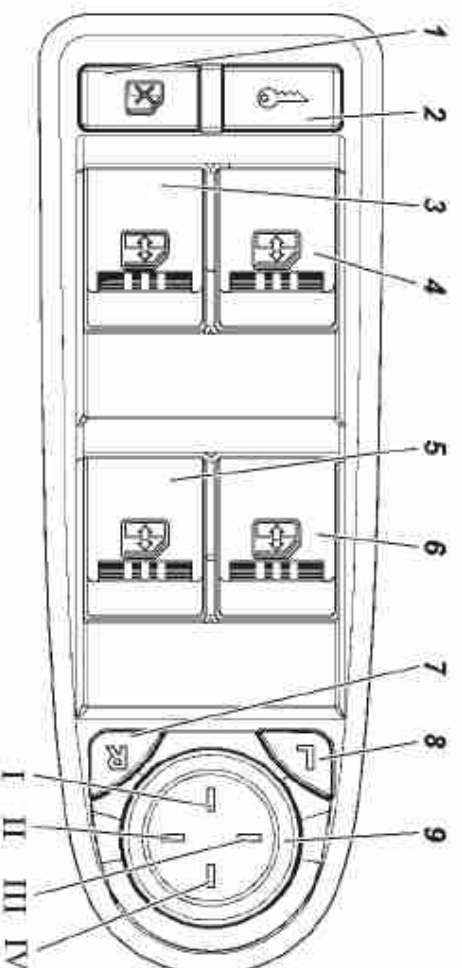

Fig. 3.14. Driver side door switch module with multiplex control:
The system can be switched over to the fast driver side door unlocking mode when, by single pressing button 2 of the RCP or turning the key in the driver side door key hole, only the driver side door is unlocked and, when pressing button 2 on the RCP or button 2 (Fig. 3.14) of the DSDM again, all other side doors and the T/gate are unlocked.
- press switch 2 (Fig. 3.14) of the DSDM. Every press either locks or unlocks the locks.
Window position is controlled by the switches located on the armrests of the respective motor vehicle doors. Side door window positions are controlled by moving switches 3, 4, 5, 6 (Fig. 3.14) on the driver's door armrest.
Left and right exterior mirror electric drive is controlled by single switch 9 (Fig. 3.14), located in the DSDM. Selecting the mirror to be adjusted according to the commands from the switch is made by one of the switches 7 or 8 of the DSDM — mirror selection buttons. Simultaneous left and right mirror adjustment is not possible.